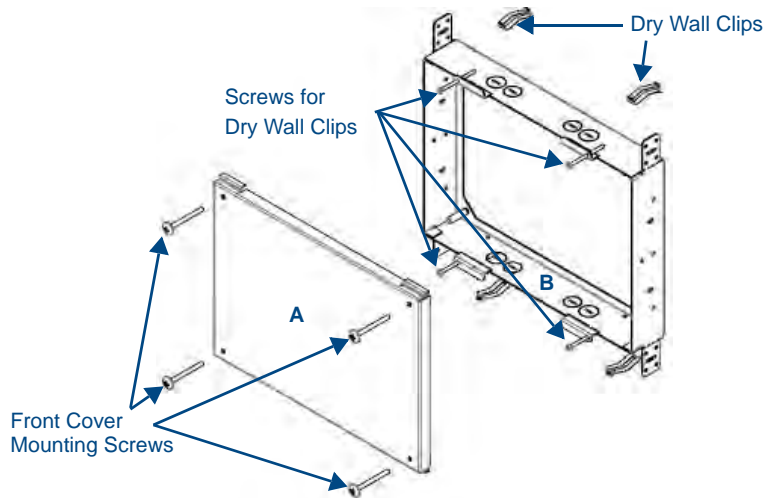

FIG. 14 CB-MVP-WDS9 Rough-In Box - with front cover
The optional metal rough-in box (FG038-13) is 11.97 inches (30.40cm) wide at its widest dimension (wider than the bezel of the Wall Docking Station), and is only intended for pre construction installations (FIG. 14). The Metal Rough-In Box is used in conjunction with the Wall Docking Station's plastic back box.
1. Remove the rough-in box cover (A in FIG. 14) before installation of the Rough-In Box (B).